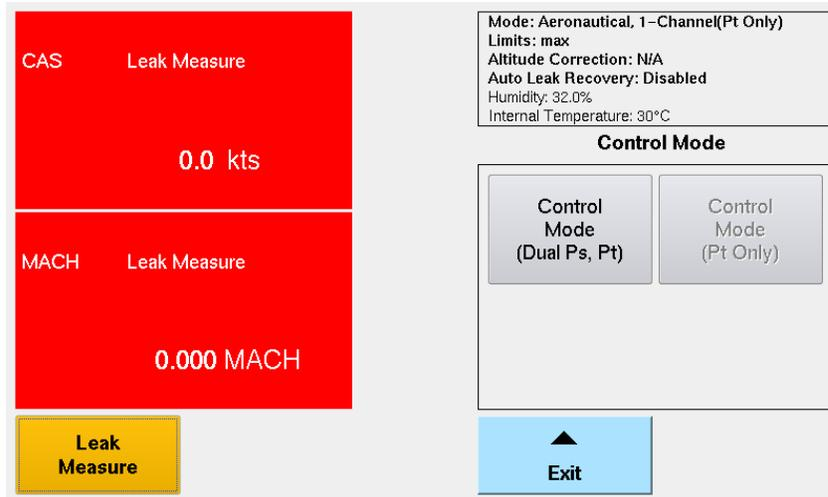

Figure 20 Optional 1-Channel (Pt Only) Mode
2. Aeronautical 1-Channel (Pt Only) (Figure 20)